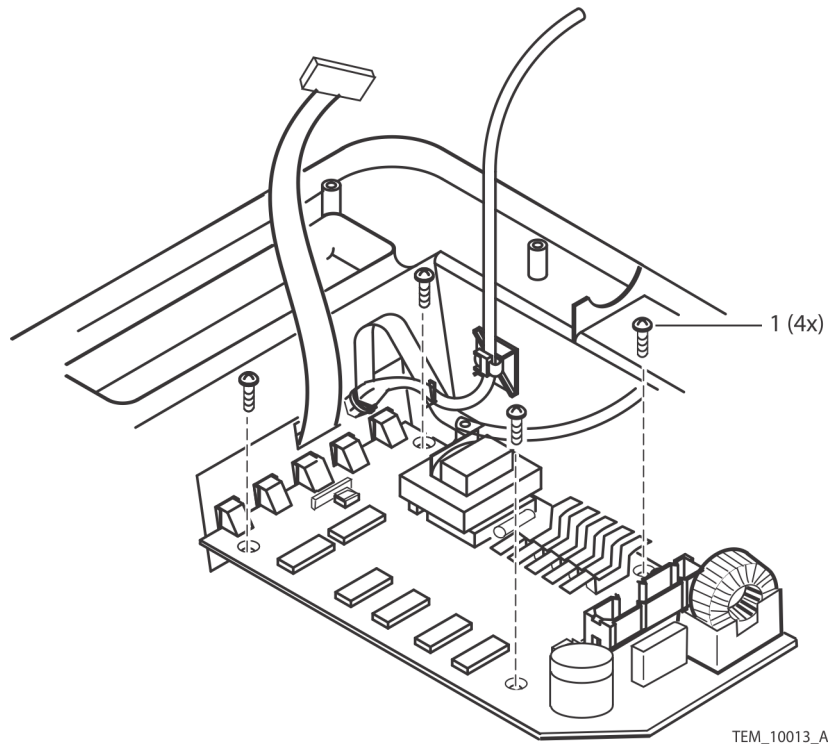

Figure 5-21. Control PCB Screws
8. Carefully place the replacement Control PCB into the front cover assembly and install the mounting screws. Tighten the screws to 4 to 6 in/lbs (10 to 15 cm/kg. See Figure 5-21.